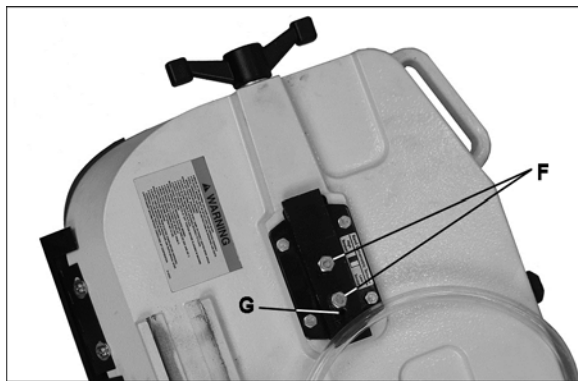

Figure 21
5. If blade will not track in position, loosen screws (F, Figure 21), but do not remove.
6. Turn set screw (G, Figure 21) counter-clockwise so that blade starts to move away from the flange; then immediately turn set screw in the other direction so that blade stops, then moves slowly back toward flange. NOTE: This adjustment is sensitive; do it gradually and in small increments allowing the wheel to respond to changes.
10. Tighten two screws (F, Figure 21).